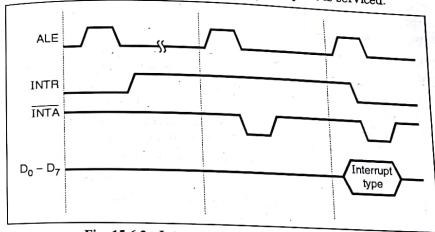

Fig. 15.6.2 : Interrupt acknowledge machine cycle
- If IF flag is set, then 8086 responds to 8259, which is diagrammatically presented in Fig. 15.6.2.